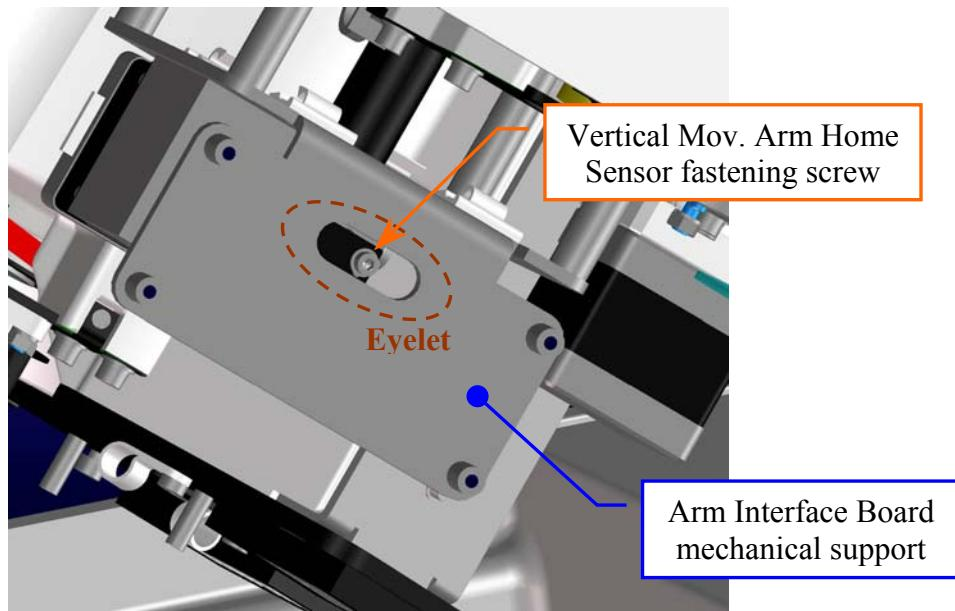
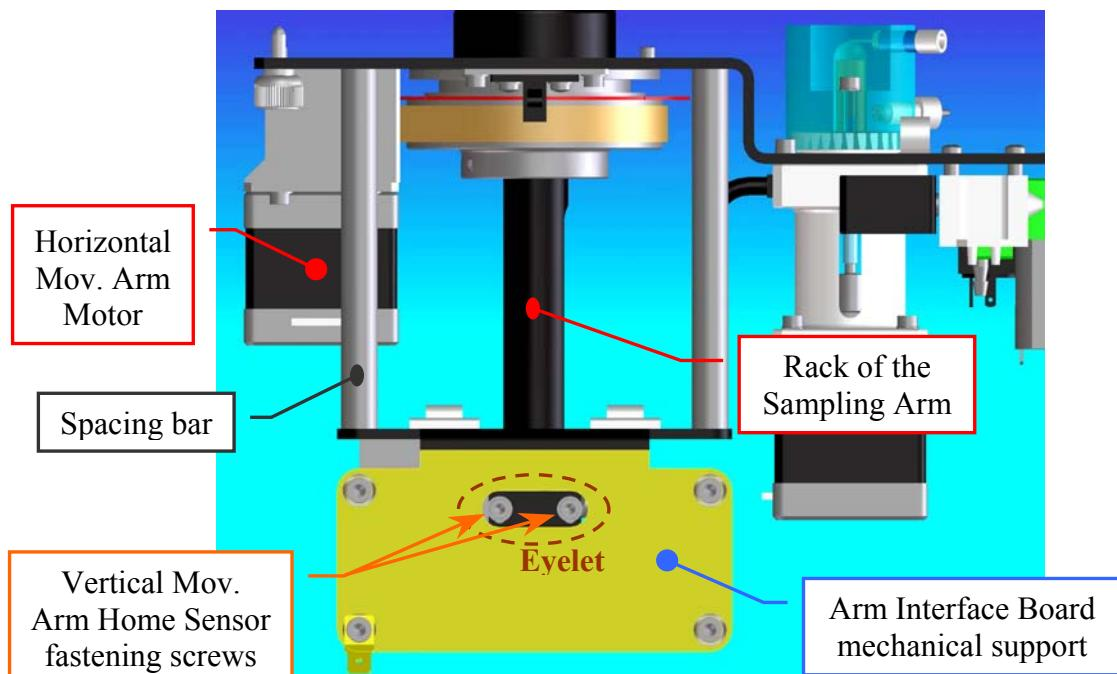

Fig. 26 – Arm Interface Board mechanical support
Fig. 27 – Vertical Mov. Arm Home Sensor fastening screws
- Introduce the setscrew wrench in the eyelet of the Arm Interface Board mechanical support (**Fig. 26**), unscrew the two fastening screws of the Vertical Mov. Arm Home Sensor (**Fig. 27**) and take out it from its housing.